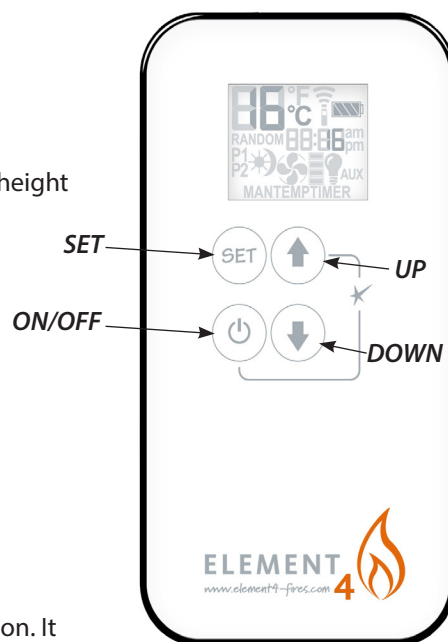

Figure 31 Remote Control
6. Place the three AAA batteries into the remote control and confirm that it will communicate with the receiver by pressing the **ON/OFF**. (See Figure 31) If necessary pair the remote and receiver.